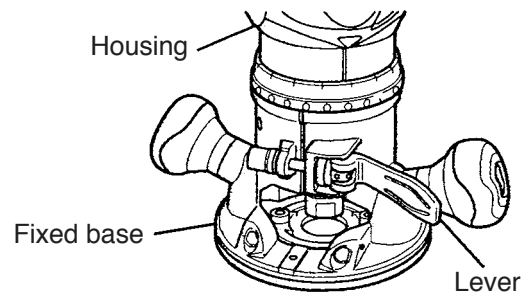
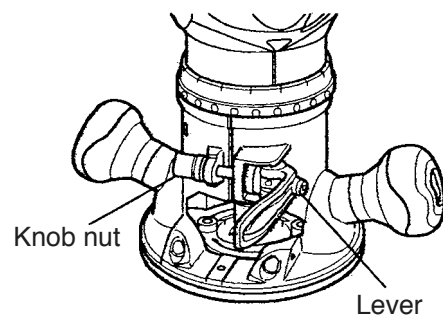
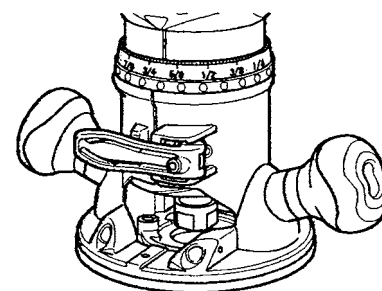

Fig. 1
Fig. 2
Fig. 3
For the conventional routers, there was a fear that the housing might slide down by its own weight when adjusting the cutting depth while the lever was in the released position (Fig. 1) or the cutting depth might be changed when shifting the lever from the released position to the secured position (Fig. 3). Because the new lever of the Models M 12VC, M 12SC, KM 12VC and KM 12SC can lightly secure the housing at the temporarily secured position (Fig. 2), the housing does not slide down by its own weight and the cutting depth is not changed when shifting the lever to the secured position. In addition, the cutting depth is finely adjustable thanks to the temporary securing function. How to use the 2-stage lock lever is exemplified below.
##### ① Released position (Fig. 1)
##### ② Temporarily secured position (Fig. 2)
##### ③ Fixed position (Fig. 3)